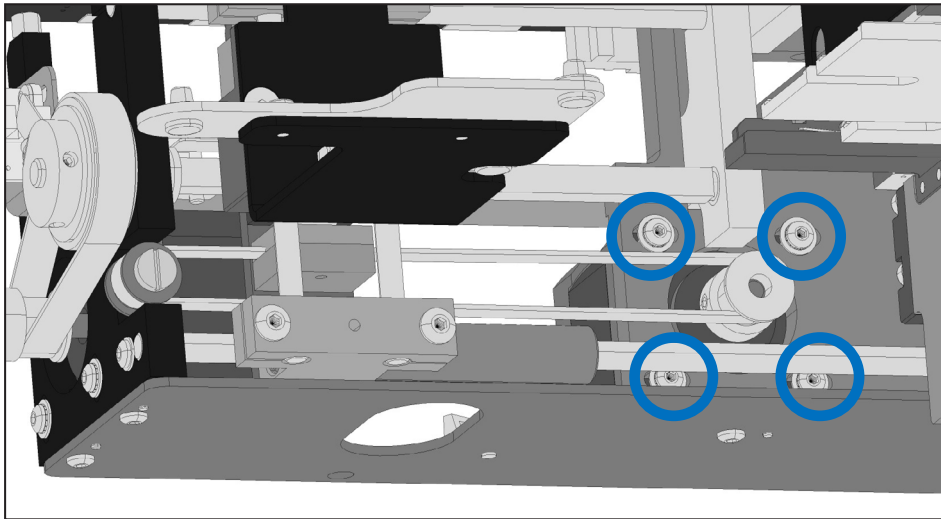

Figure 67: The securing screws of the Horizontal strip timer motor as seen from below the Strip timer unit
3 Unscrew the four (4) 2-millimeter hex socket button head screws, accessible behind the shaft and timing belt of the Horizontal strip timer motor, that secure the motor to the central motor plate that is attached to the module bottom plate (see Figure 67). Save the serrated washers and the flat washers.
4 Loosen the four (4) 2-millimeter hex socket button head screws, accessible behind the shaft and timing belt of the Horizontal strip timer motor, that secure the motor to the central motor plate that is attached to the module bottom plate (see Figure 67).
3 Unscrew the four (4) 2-millimeter hex socket button head screws that secure the motor to the plate at one end of the strip timer motor shafts. (The plate with the small drive axle and the large idler pulley coming through, on the left in Figure 67.) Save the serrated washers and the flat washers.
2 Disconnect connector 14 from Circuit board number 5 (see Figure 62). Loosen the four (4) 2-millimeter hex socket button head screws that secure the motor to the plate at one end of the strip timer motor shafts. (The plate with the small drive axle and the large idler pulley coming through, on the left in Figure 67.)